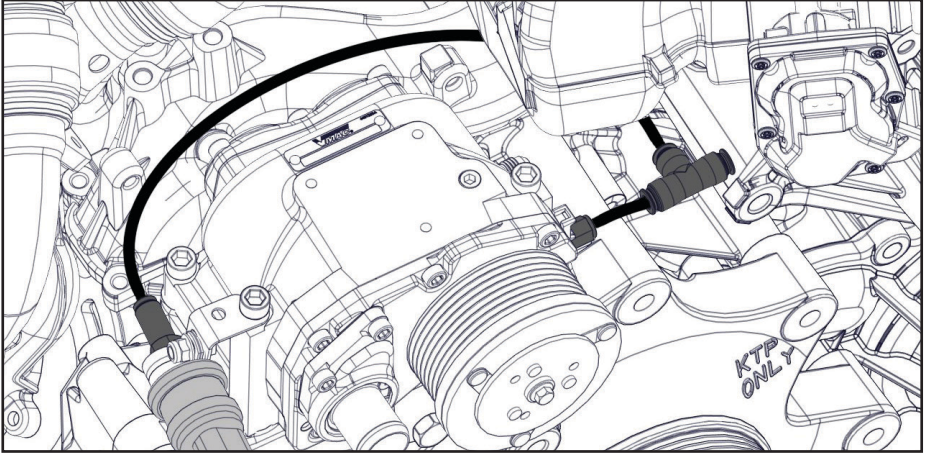

Figure 30 — Connect pressure switch
- Cut a 2 in length, from the 24 in spool of 1/4 in PTFE tubing to connect the Tee union to the compressor (Figure 30).
- Connect the PTFE tube to the pressure switch and route it over/behind the compressor to the Tee union (Figure 30).